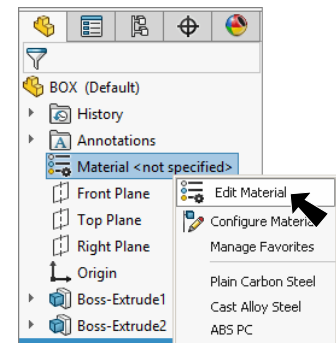

Fig. 11
- Step 1. Right click **Material**  in the Feature Manager and click **Edit Material**, Fig. 11.